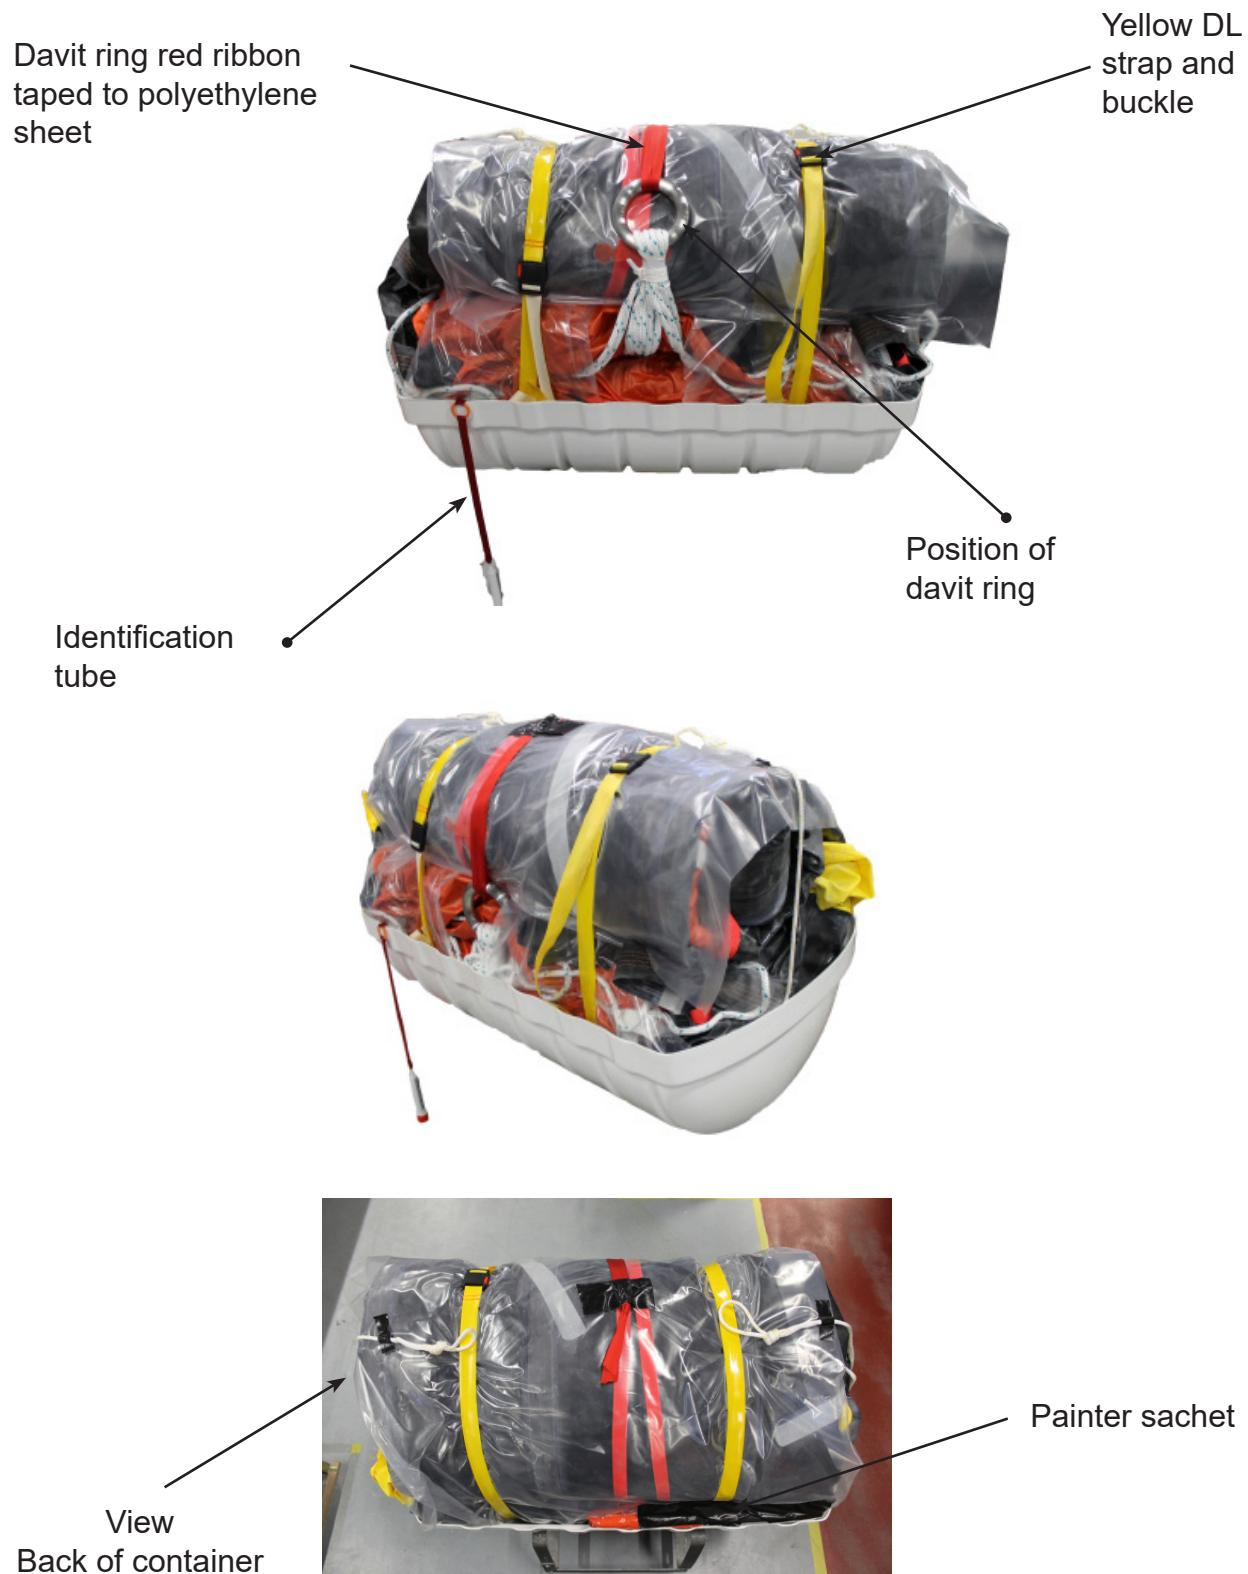

FIGURE A9-14
- 2.39 Wrap the polyethylene sheeting around the outside of the folded liferaft, tucking the overlap under the fold. Refer to FIGURE A9-14.
- 2.40 Fold the polyethylene cut-out flap under the davit ring. Refer to FIGURE A9-14.
- 2.41 Close and tighten both yellow DL straps by clipping them together. Keep buckles above the container edge. Refer to FIGURE A9-14.
Then take each bowsing line loop and tape high on the folded liferaft using 50 mm strip of 100 mm black tape. Refer to FIGURE A9-14.